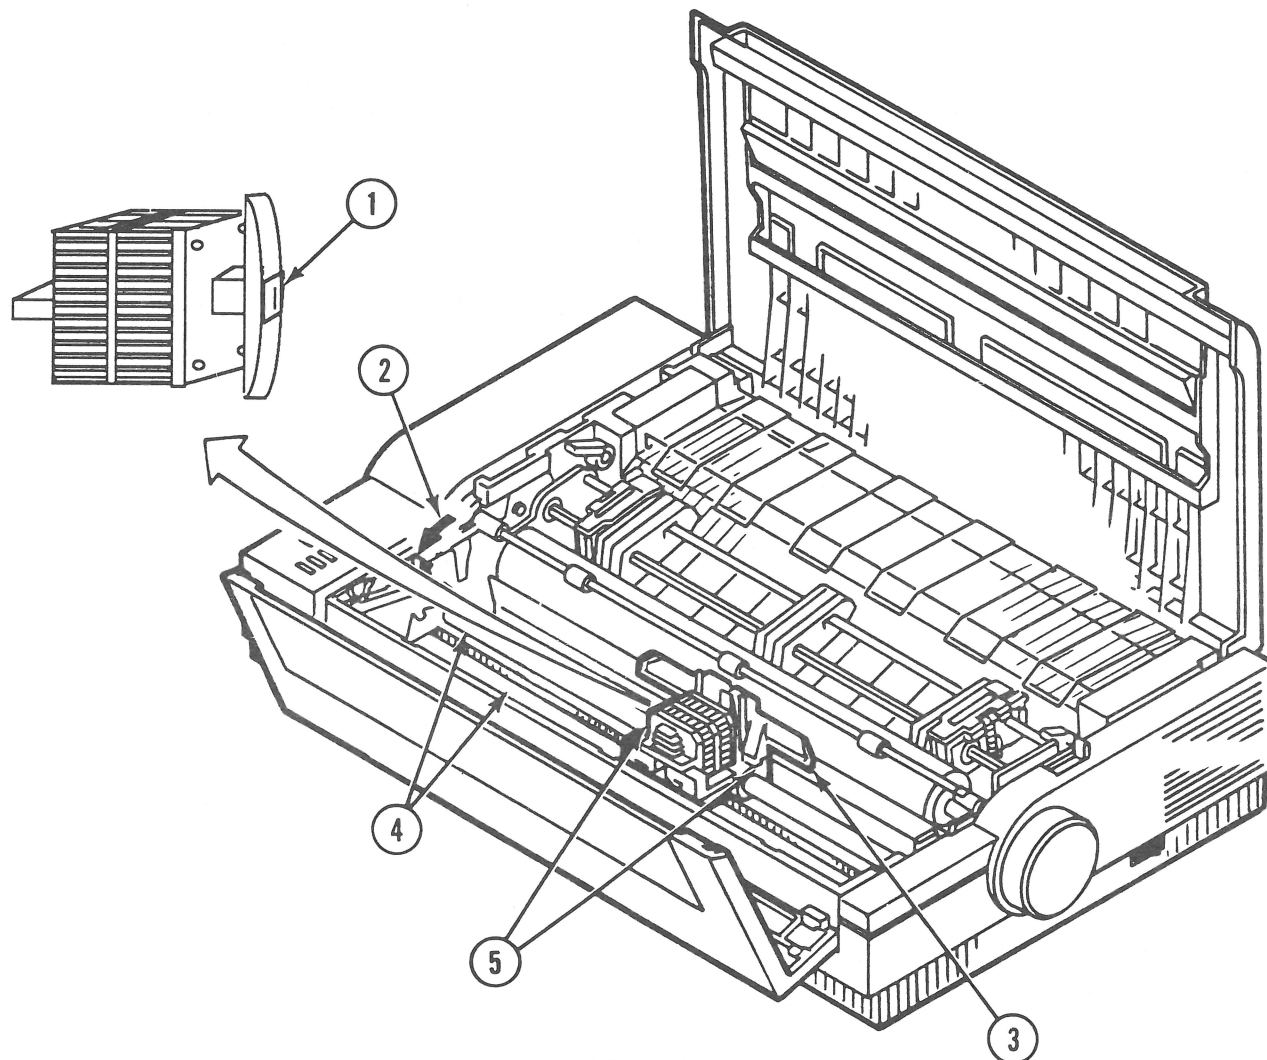

FIGURE 2
2. To clean the print head (Figure 2, #1):
- a) Push the paper thickness lever (Figure 2, #2) toward the front of the printer to the number five position.
- b) Remove the card guide (Figure 2, #3).
- c) Gently wipe the print head with a cotton swab moistened with alcohol or freon (Figure 2, #1).
- d) Replace the card guide (Figure 2, #3). (Perform the Card Guide Adjustment - see Section 3, Adjustments.)
3. Wipe old oil and dirt off the carrier shaft (Figure 2, #4) with a lint-free cloth.
4. Lubricate the carrier shaft by applying four drops of Floil G-488 to each felt wiper located under the carrier assembly (Figure 2, #5).